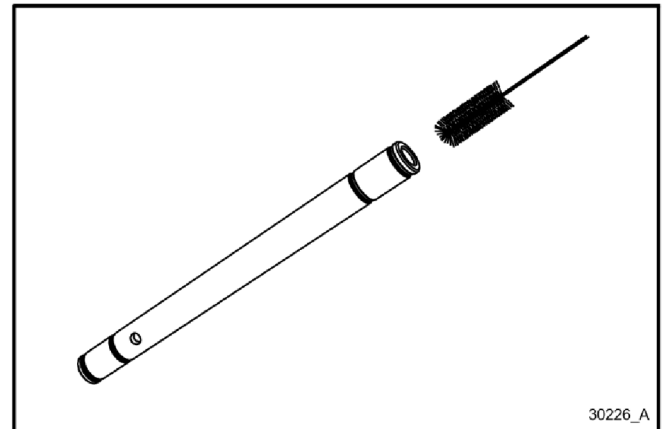

Figure 5-12
6. Place the power switch in the ON position. Figure 5-12.